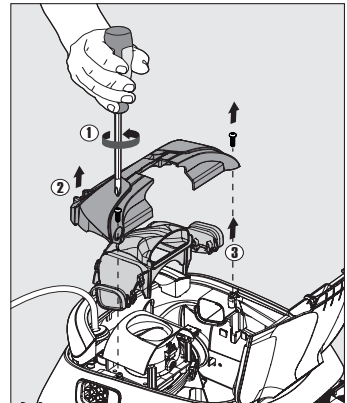

FIGURE 29
1. Using a No. 2 Phillips-head screwdriver, remove the two screws that hold the intermediate cover and manifold assembly in place. These screws can be found in the inside corners of the intermediate cover. See **Figure 29**.
3. Gently pull the intermediate cover (Item #2 in **Figure 29**) away from the cleaner and place it aside.
4. Gently pull the manifold assembly (Item #3 in **Figure 29**) away from the cleaner and place it aside.